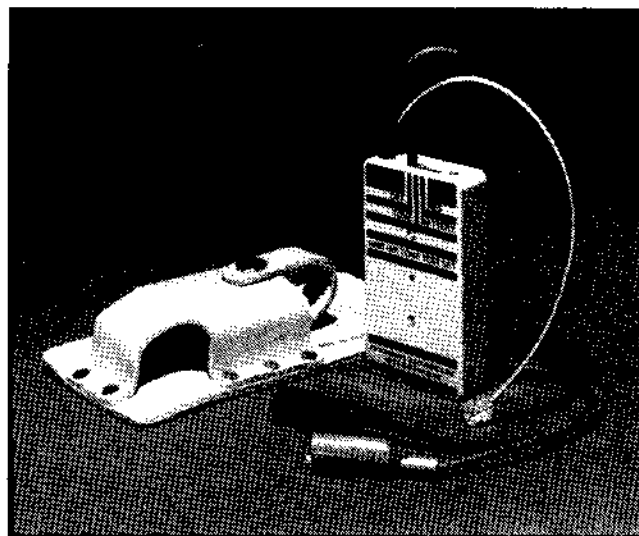

Figure 1 - 100B Test Set and Leather Carrying Case
1.01 The 100B Test Set (Fig. 1) provides the features outlined in Paragraph 1.03 and is housed in a yellow plastic case which measures approximately 7/8 inch thick, 2-1/4 inches wide and 4 inches long. Red and black test leads are provided, which are equipped with alligator clips, and are permanently attached to the set. A 4-conductor modular plug and cord, plus a Light Emitting Diode (LED) provide a line polarity test feature. A four-position slide switch controls the modes of operation.